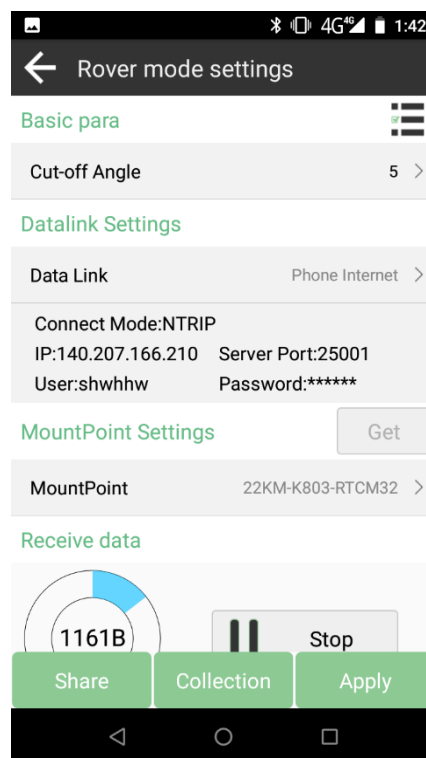

Figure 3.3 Set Rover Mode Succeeded
- **Apply**. If succeeded, you’ll be receiving data as shown in the bottom of Figure 3.3.